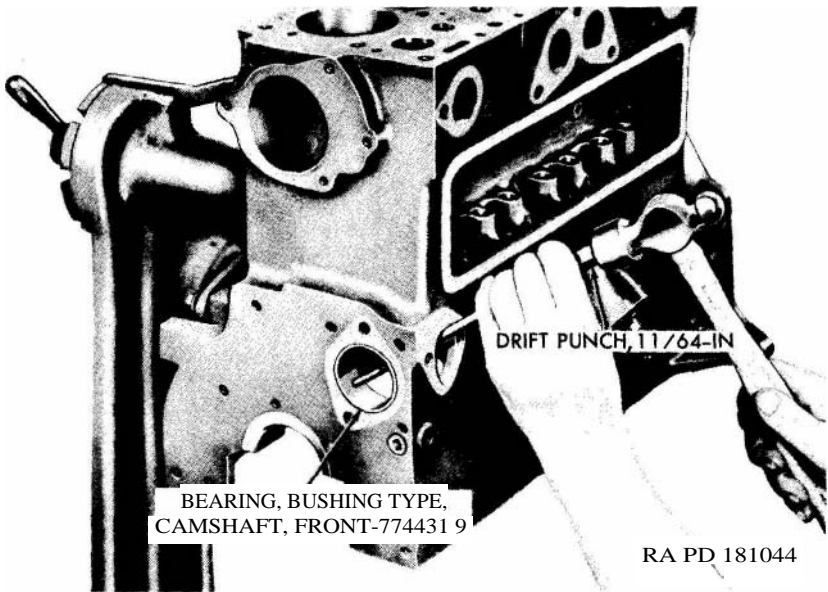

Figure 33. Staking camshaft front bearing.
e. Stake the bearing in place using an $\frac{11}{64}$ -inch drift punch inserted into the fuel pump opening in the side of the block and centered in the oil hole in the front camshaft bushing type bearing (fig. 33). Drive against the punch to cause the bearing metal to be driven into the oil hole in the cylinder block. Make sure the oil hole is open and clear after performing this operation. It is not necessary to line bore the bearing after installation.